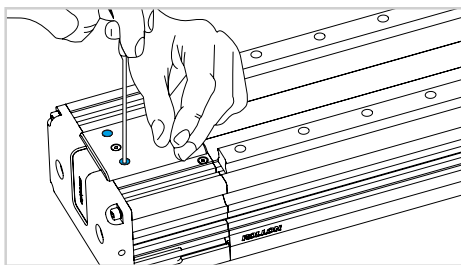

Fig. 4
- 3) Remove the cover from the idle head loosening only the 4 outer screws. (Fig.4).